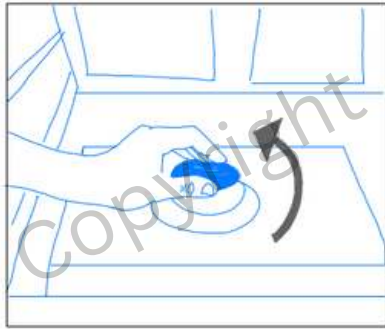

figure 1
2. Then remove the sieve located at the bottom of the appliance. The spray arm can be removed upwards (figure 1+2).